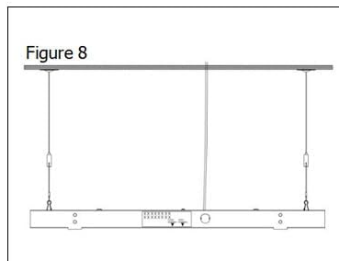

Figure 8
Step 3: Suspend the luminaire bracket with hooks on the hanging ropes and pull the power cable into the luminaire bracket from cable entry hole (Figure 8).